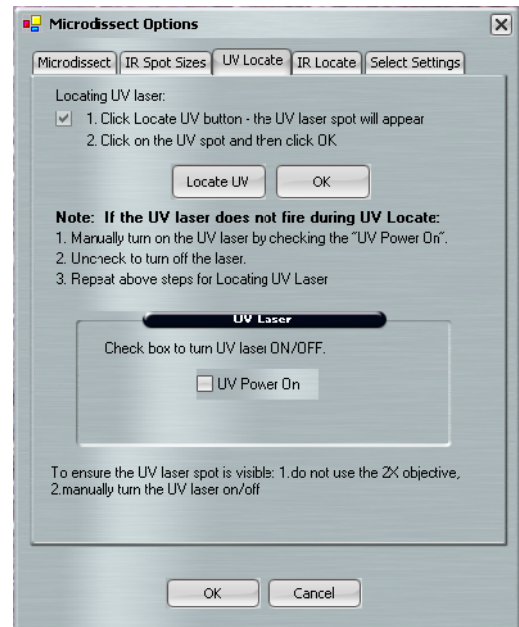

Figure 52 UV Locate tab
2. Click the **UV Locate** tab (see Figure 52).